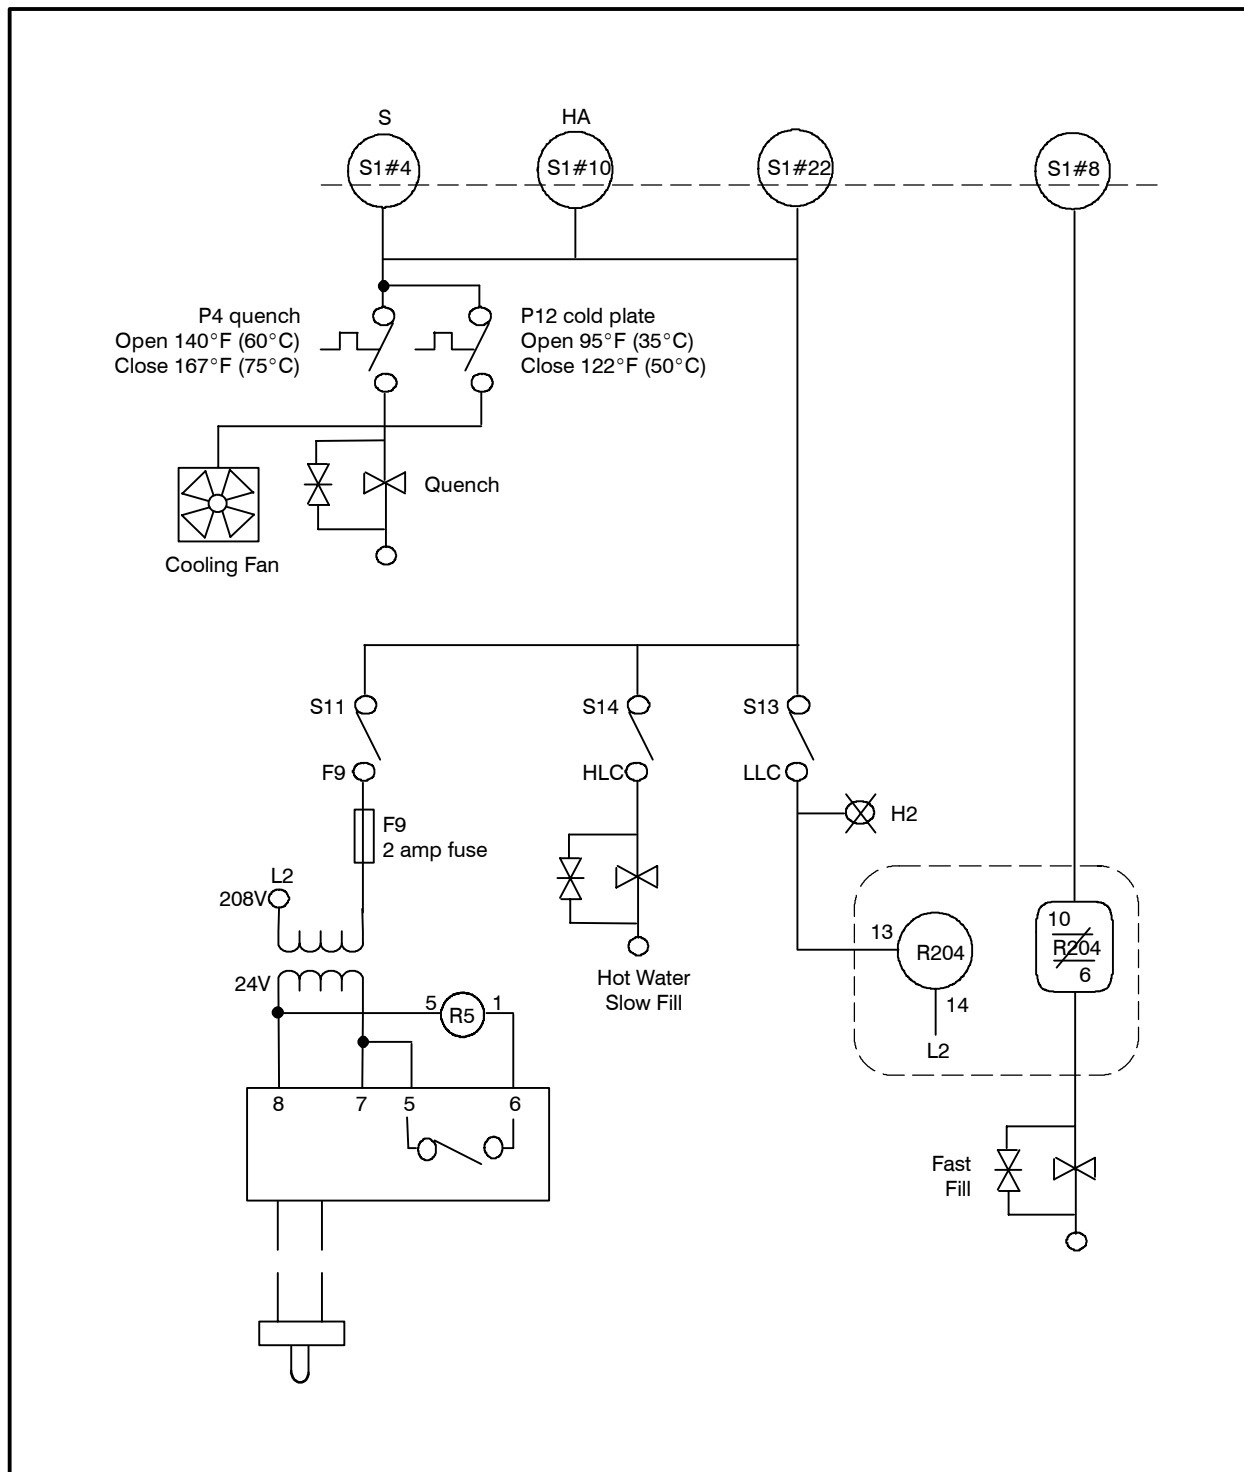

FIGURE 7
2. Check mode switch positions 4, 10, and 22. See FIGURE 7, location (A).
3. Check input and output to fast LLC (Low Level Control) float. The LLC is the long float. See FIGURE 7, location (B).
4. Check relay R204, coil, input and output. See FIGURE 7.
5. Check fast fill solenoid. See FIGURE 7, location (D).
6. Verify hot water slow fill is operating. See FIGURE 7, locations (E) and (F).
1. Check mode switch, terminals 4, 10, and 22. See FIGURE 7, location (A).
2. Check S11 fuse. See FIGURE 7, location (J).
3. Check step down transformer XFMR inputs and outputs. See FIGURE 7, location (L).
5. Check R5 relay coil and terminals. See FIGURE 7, location (O).